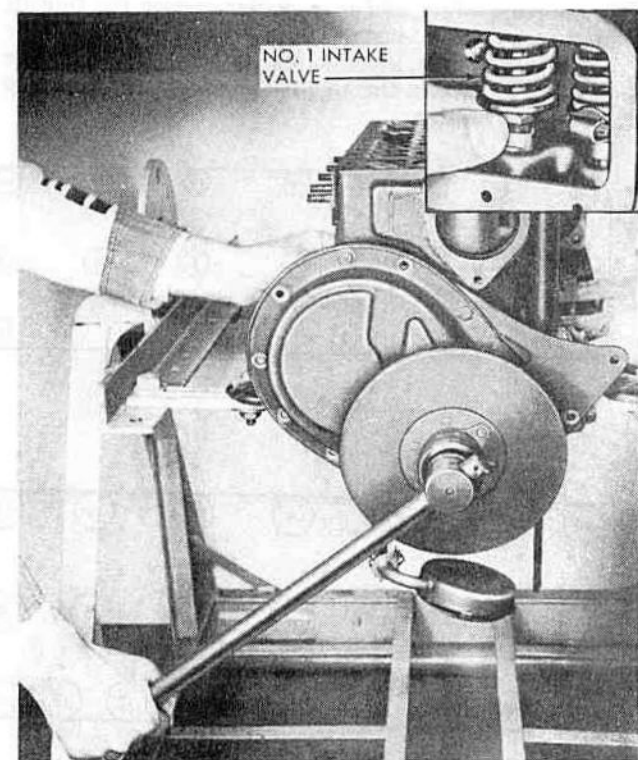

FIG. 171
**CHAMPION AND COMMANDER** To determine whether the valve timing of the engine is correct without dismantling the engine, adjust the tappet clearance of the No. 1 intake valve at .020" (0,5080 mm.). Turn the crankshaft clockwise until the No. 6 piston is on the compression stroke and the "IN-OP 1-6" marking on the vibration damper flywheel is several inches away from the pointer. Then grasp the tappet and continue to move it up and down, turning the crankshaft slowly ahead until no up-and-down clearance can be felt (see Fig. 171). When there is no clearance, the No. 1 intake valve begins to open, and if the valve timing is correct, the "IN-OP 1-6" marking should be directly below the pointer. If the flywheel marking is noticeably out of alignment with the pointer, the valve timing is incorrect.